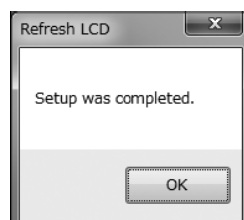

Fig.82
- ⑤ Click "OK" to change the settings to the selected values, and then click the "OK" button in the displayed message box (Fig. 82) to complete the setting process.